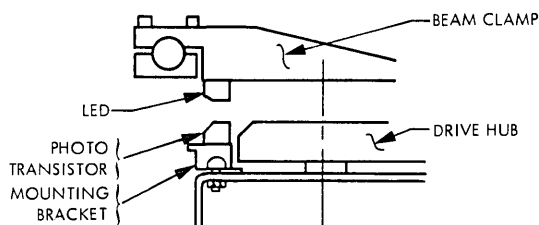

Figure 5-2. LED Assembly Placement (Side View)
- (1) Mount the replacement LED assembly from the underside of the beam clamp with the chamfer on the mounting block facing the door. Refer to Figure 5-2.
- (2) Secure the two mounting screws to 4 to 6 in-lb.
- (3) Route the connecting wires across the shaft and down the outside of the card guide, i.e., between the chassis side and the card guide and through the hole in the card guide.
- (4) Route the connecting wires through the grommet in the chassis. Ensure that the wires do not interfere with the diskette when a diskette is installed in the drive.
- (5) Insert wire terminating pins in connector P2 according to pin numbers and color code noted during removal of the assembly.
- (6) Replace the tie wraps.
- (7) Install the PCBA as detailed in Paragraph 5.1.1.
- (8) Check the Index Sensor alignment and adjust if required (see Paragraph 4.5.6).
The photo-transistor assembly is located on a bracket on the front of the chassis base plate (directly beneath the LED assembly). In the event of a failure, the photo-transistor must be replaced. Reference Figure 5-2.
- (1) Mount photo-transistor assembly to bracket with chamfer towards the loading door.
- (2) Carefully route the connecting wires of the replacement photo-transistor assembly down through the grommet.
- (3) Install the photo-transistor bracket on the chassis as shown in Figure 5-2. Tighten the bracket mounting screws finger tight.
- (4) Insert wire terminating pins in connector P2 according to pin number and color code noted during removal of the assembly.
- (5) Route the wires and replace the tie wraps. Ensure that the wires clear the loading door mechanism during opening and closing.
- (6) Install the PCBA as detailed in Paragraph 5.1.1.
- (7) Perform the Index Sensor alignment procedure detailed in Paragraph 4.5.6.